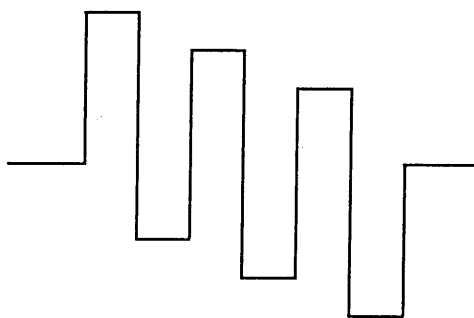

Fig.11
4. Adjust VR304 to obtain the waveform as Fig.11.